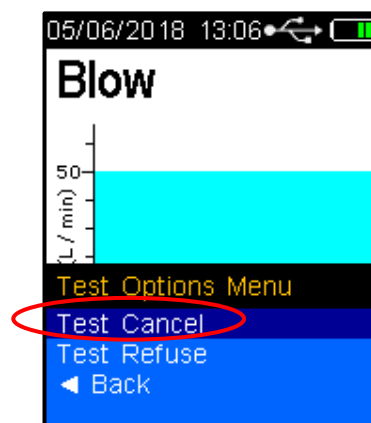

Figure 26 - Test Options Menu and Test Cancel
- With the Blow screen displayed, Press the Up and Down buttons simultaneously. The *Test Options Menu* will be displayed and using the down arrow to *Test Cancel* is selected (Refer to Figure 26).
- With the Blow screen displayed, press the Up and Down buttons simultaneously. The *Test Options Menu* and *Test Cancel* is displayed (Refer to Figure 26).